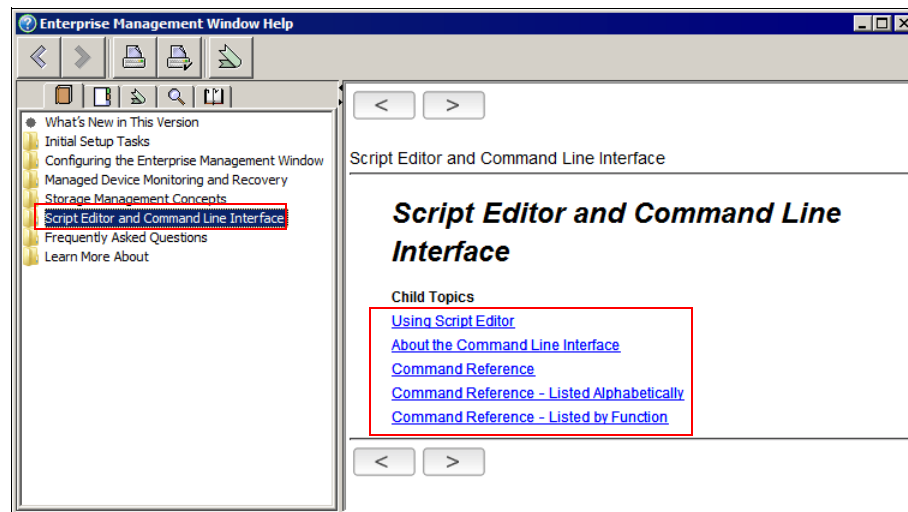

Figure 15-4 Command Reference - Help
- The Script Editor contains an online help function that describes the usage of each of the available commands. To display the online help (Figure 15-4), click **Help** → **Command Reference**, or for help about using the Script Editor itself, click **Help** → **Overview**.